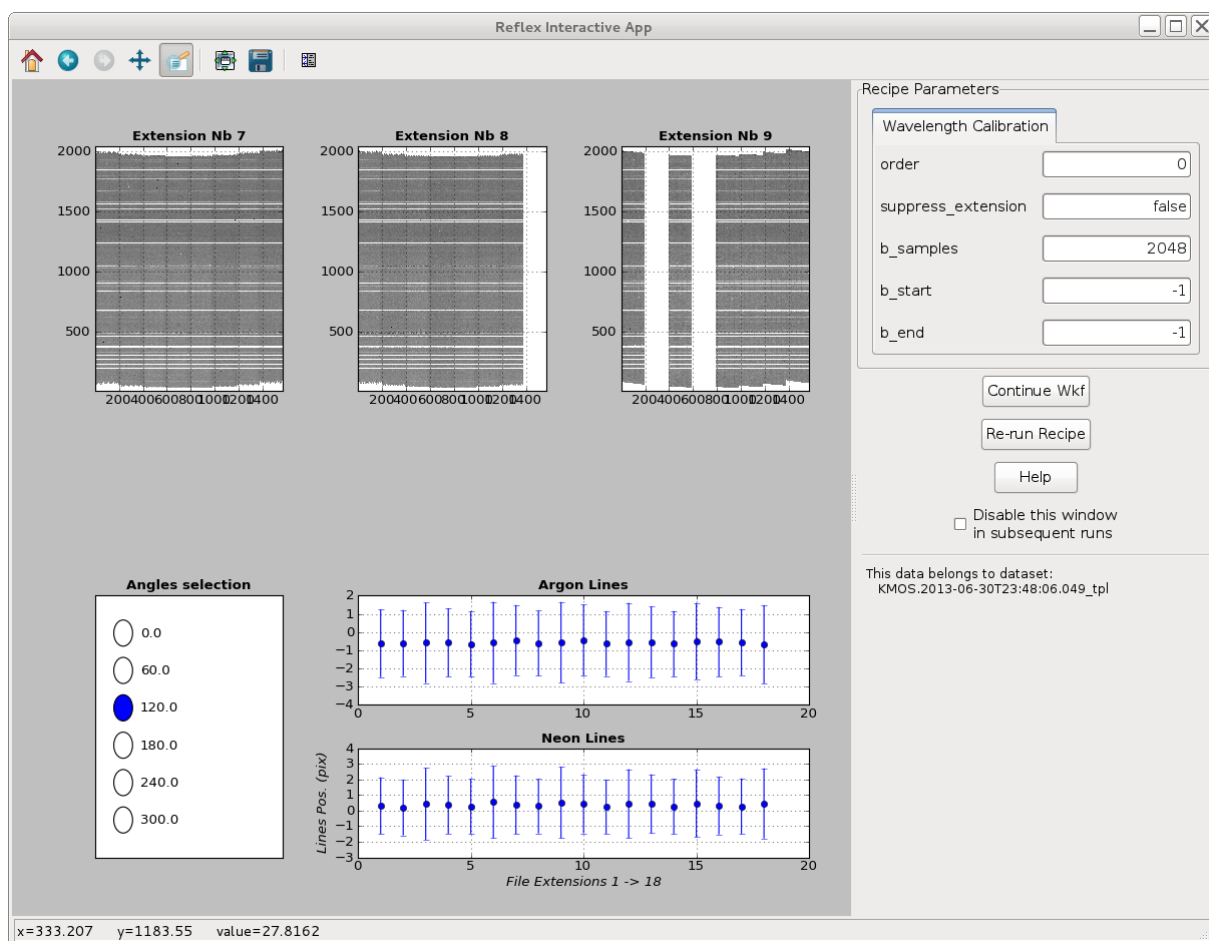

Figure 9.1: The interactive window for the Wavelength Calibration actor as displayed for the KMOS tutorial data set..
3. **Wavelength Calibration:** Figure 9.1 shows the interactive window that will pop-up at the end of the execution of the `kmo_wave_cal` pipeline routine. The image panels at the top of the window show the reconstructed arc frames for each of the three detectors at one of the six rotator position angles. To view the reconstructed arc frames at another rotator angle (either 0, 60, 120, 180, 240, or 300 degrees), simply click on the ovals in the *Angle selection* box. For each of the 18 reconstructed arc frames, the relative average offset of the reconstructed arc lines are plotted in units of pixels for each of the Argon and Neon arc lines (bottom two plots). One-half of the length of the error bars associated with each data point gives the average FWHM (in pixels) for each arc line.